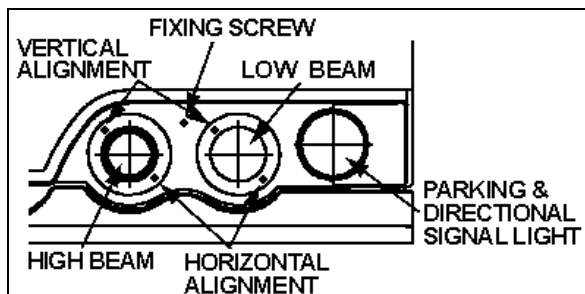

FIGURE 24: HEADLIGHT ASSEMBLY 06546
Headlight aim should be checked after installing a new bulb. Aiming can be performed without opening headlight assembly. Horizontal and vertical aiming of each module is provided by two adjusting screws that pivot the module in the housing for proper alignment (fig. 24). There is no adjustment for focus since the module is set for proper focus during manufacturing assembly.
2. Remove the headlight screw fixing the headlight assembly, then tilt headlight assembly down (Fig. 24 and 25).